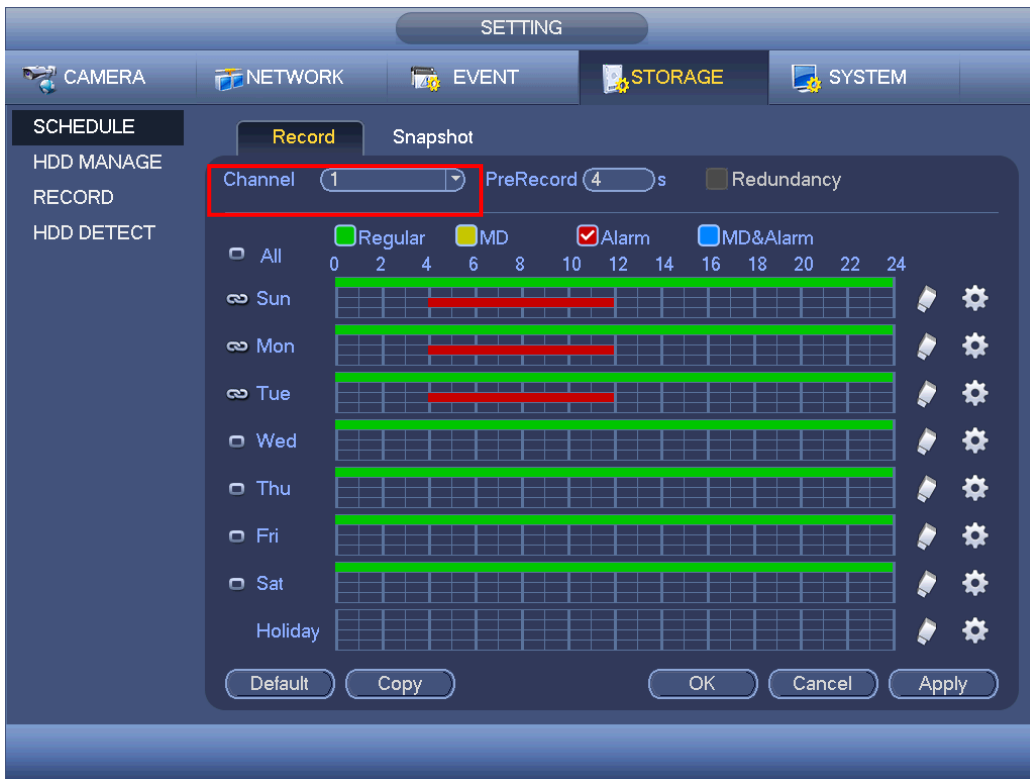

Figure 4-176
- In main menu, from Setting->Camera->Encode->Schedule interface, please enable snapshot function. See interface on the right of Figure 4-176.